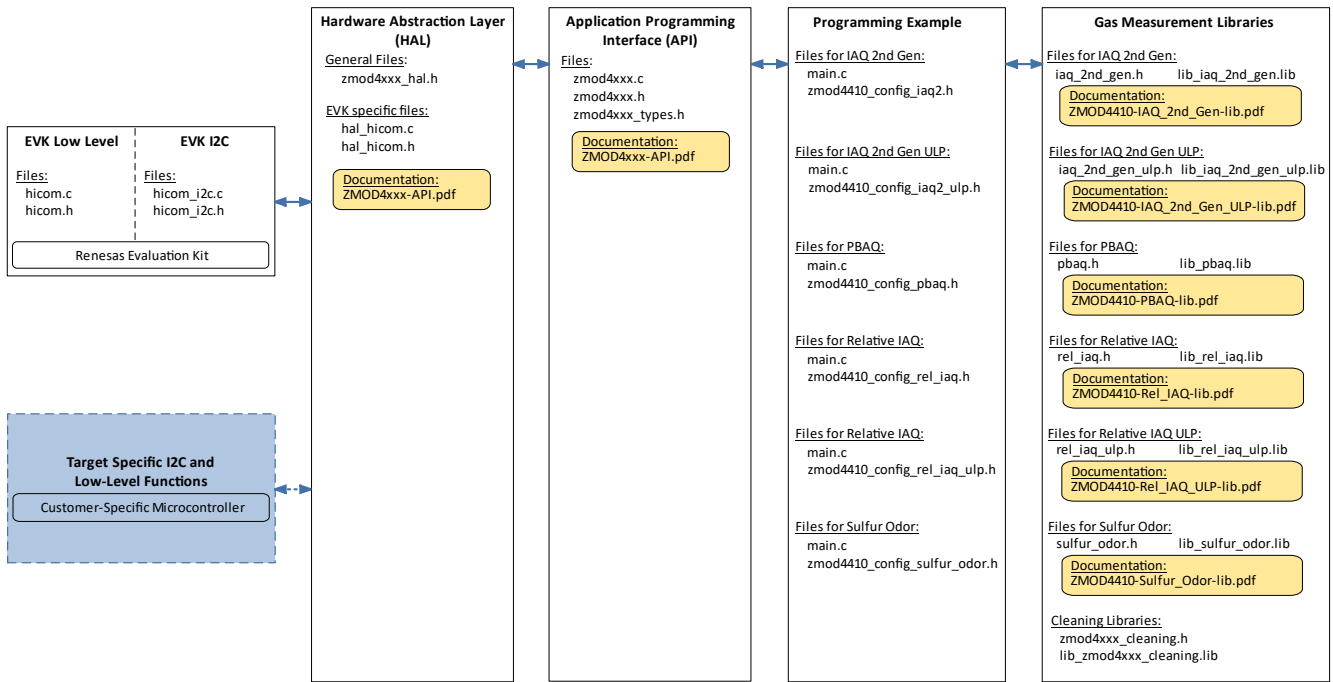

Figure 1. File Overview for ZMOD4410 Firmware
To operate the ZMOD4410 and use its full functionality, five code blocks are required as displayed in Figure 1:
1. The “Target Specific I2C and Low-Level Functions” block is the hardware-specific implementation of the I2C interface. This block contains read and write functions to communicate with the ZMOD4410 and a delay function. If the Renesas EVK is used, files for the EVK HiCom Communication Board are provided with the ZMOD4410 firmware packages. Using the user’s own target hardware requires implementing the user’s target-specific I2C and low-level functions (this is highlighted in light blue in Figure 1).